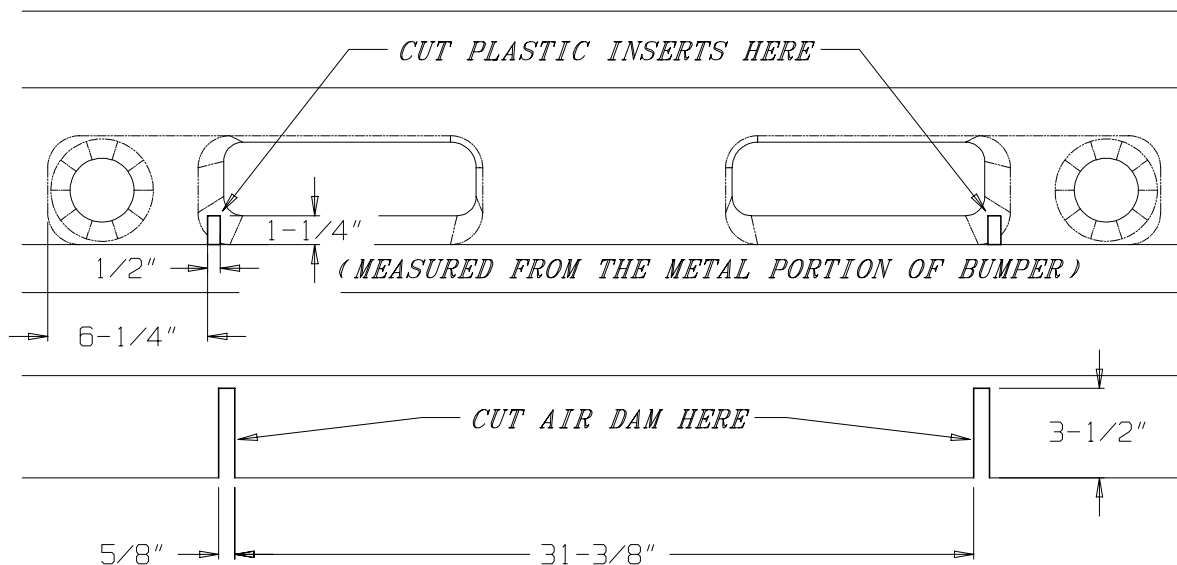
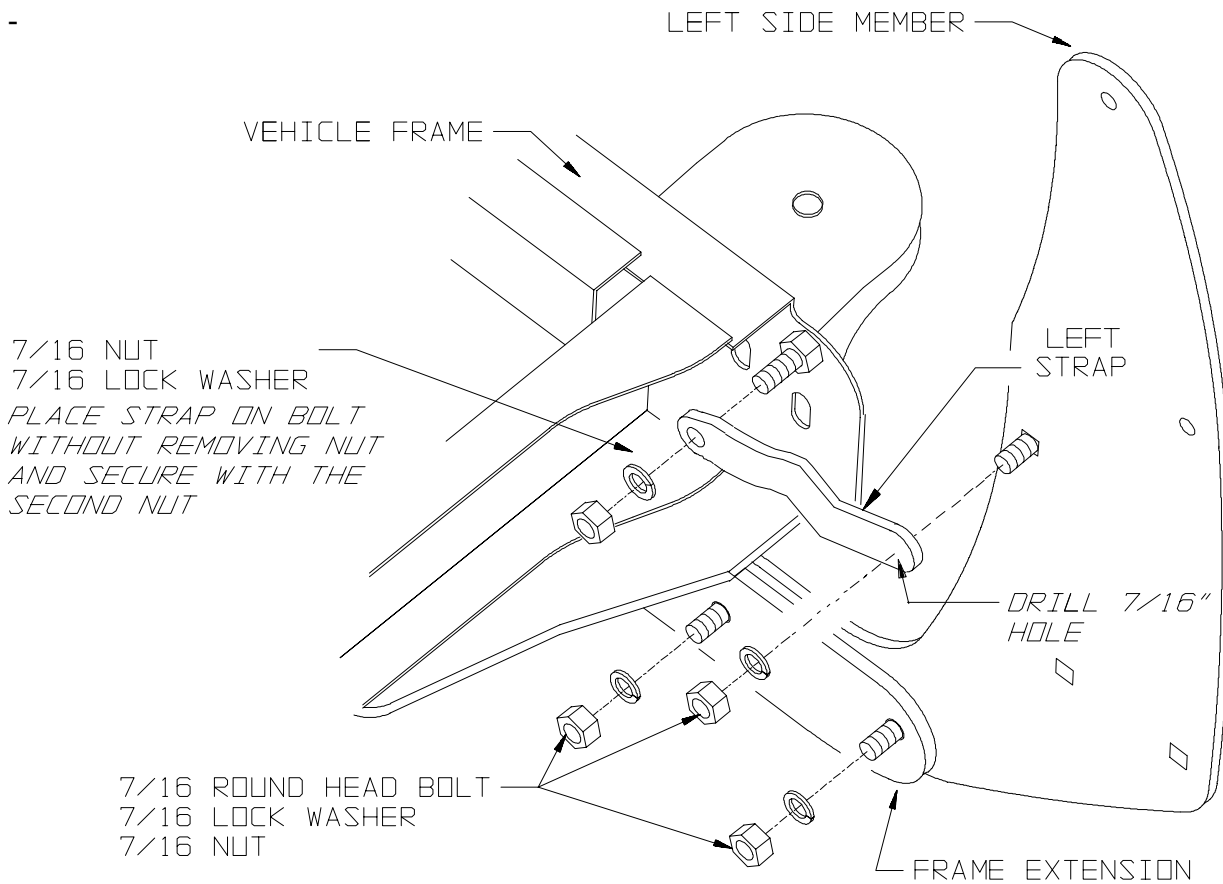

Figure 1
Figure 4
1. If the vehicle has the plastic air dam under the bumper and plastic inserts in the bumper openings, cut slots as shown in Figure 1. **The straps shown in Figure 4 cannot be installed until the plastic inserts are cut.**
- **Stainless Kits use 7/16" stainless button head bolts in place of round head (carriage) bolts installed through the Side Members as noted in Figure 4.**
- **Stainless Kits use 7/16" insert lock nuts on the stainless bolts in place of the nuts and lock washers noted in Figure 4.**
8. Install the straps through the bumper slots and onto the front upper frame bolt and **place on top of nut, not under.** Mark the outer end of strap for drilling where it meets square hole in side member. Drill 7/16" dia. hole. See **Figure 4.**